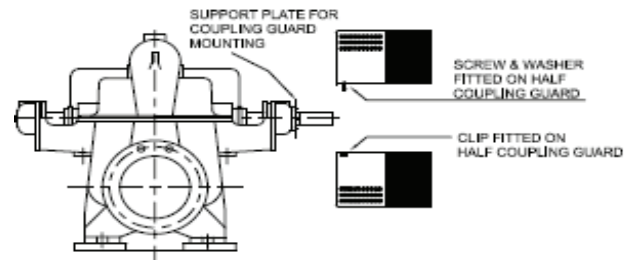

Figure 6 – Coupler Guard Installation
- Fasten coupler guard hardware, see Figure 6..